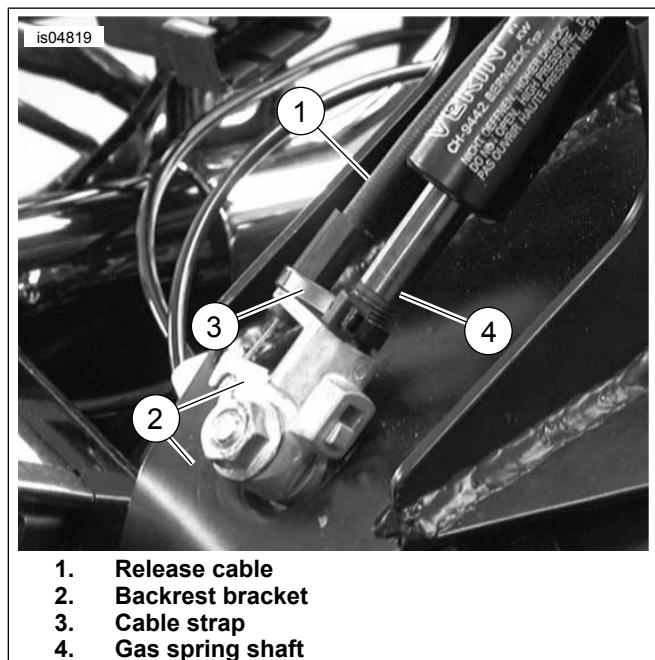

Figure 11. Attach Cable to Backrest Bracket
19. See Figure 11. Attach the release cable (1) to the backrest mounting bracket (2) as shown.
20. Carefully secure the cable to the shaft of the gas spring (4) with the provided cable strap (3). Do not over-tighten the cable strap.